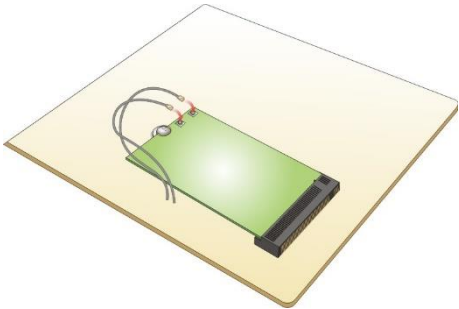

Figure 3-8: Connect RF Cables
Step 5: Connect the two RF cables to the antenna connectors on the WLAN module (**Figure 3-8**).